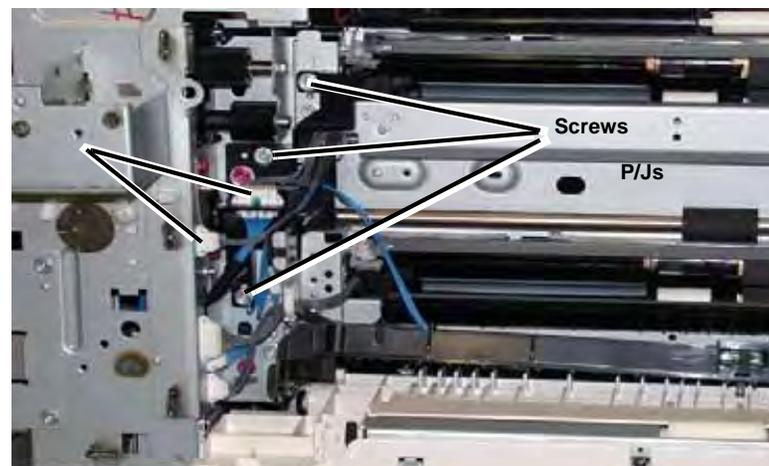

Figure 6 Removing Screws & P/J's
9. Perform the following (Figure 6).
- a. Disconnect Feeder 1 P/J's (2).
- b. Loosen the harness bracket, remove the Screws (3).